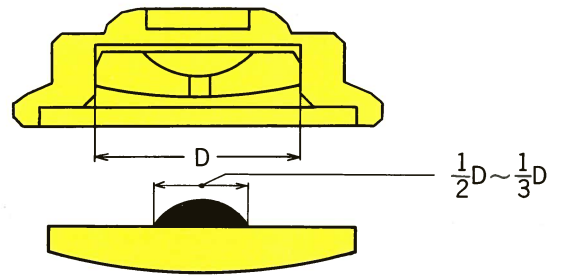

Fig. 1
After cleaning or applying an Epilame treatment, cover the cap jewel and hole jewel with frame from directly above after oiling the cap jewel. Apply oil so that the quantity spreads over from one-half to one-third of the hole jewel diameter (D) in the condition of setting the cap jewel and hole jewel with frame. Fig. 1